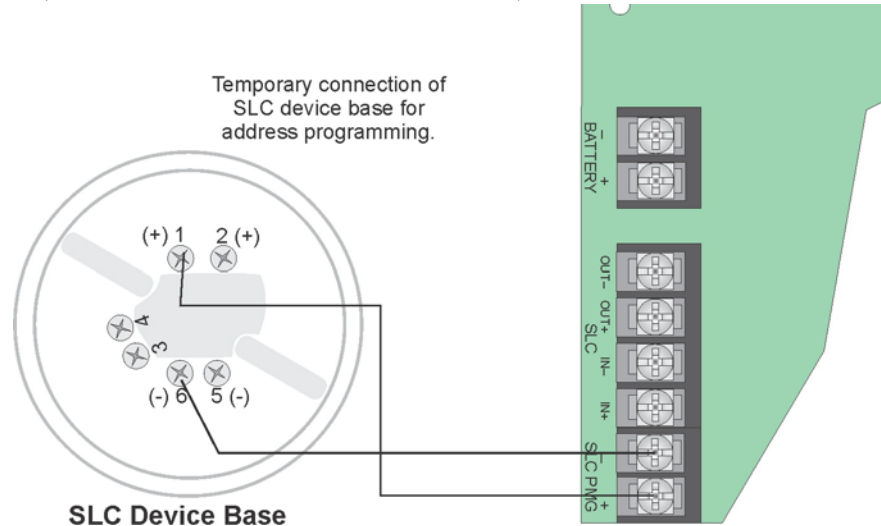

Figure 7-7 Temporary Connection of Detector Base to Panel for Addressing
1. Connect a detector base temporarily to the programming terminals as shown in Figure 7-7. (You can use the same base for each detector).